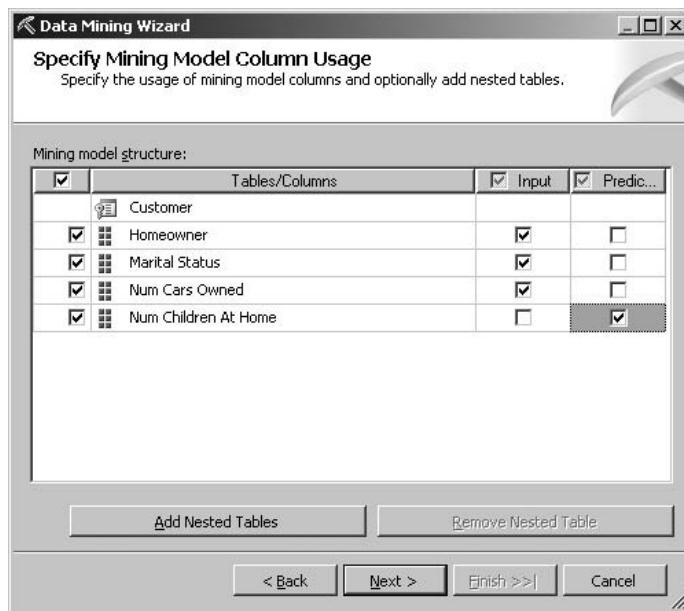

Figure 14-6 The Specify Mining Model Column Usage page of the Data Mining Wizard
20. Uncheck the check box in the Input column for Num Children At Home. Check the check box in the Predictable column for Num Children At Home. The Specify Mining Model Column Usage page appears as shown in Figure 14-6.